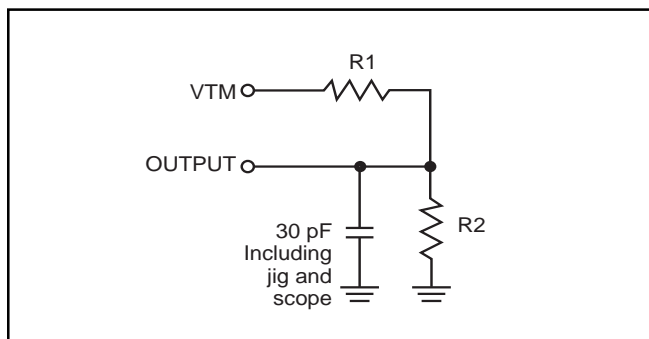

Figure 1
1. Test conditions assume signal transition times of 5 ns or less, timing reference levels of 0.9V/1.5V, input pulse levels of 0.4 to V_{DD}-0.2V/V_{DD}-0.3V and output loading specified in Figure 1.
1. Test conditions assume signal transition times of 5 ns or less, timing reference levels of 0.9V/1.5V, input pulse levels of 0.4V to V_{DD}-0.2V/V_{DD}-0.3V and output loading specified in Figure 1.